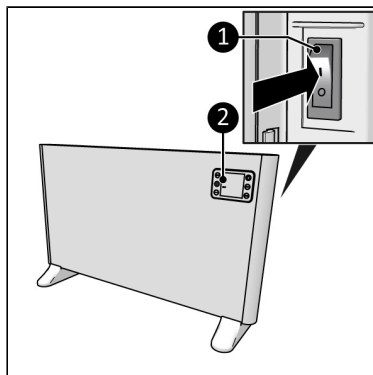

Figure 17.
1. Set the ON/OFF switch to the ON position (Figure 17, pos. 1).
2. The display (Figure 17, pos. 2) will show OFF.